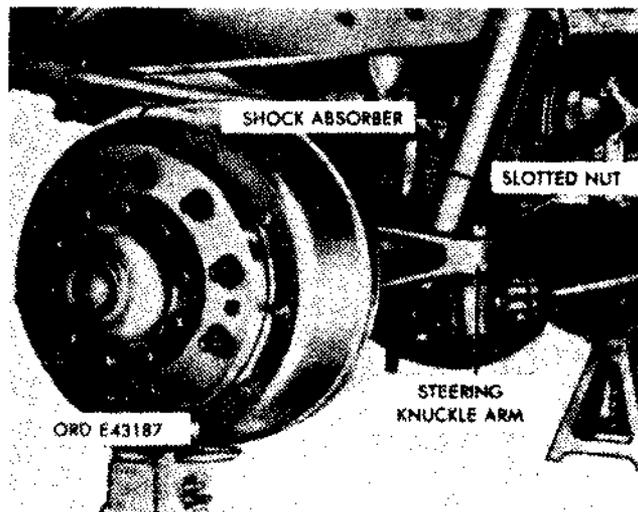

Figure 2-204. Front axle assembly with **wheel** and **tire** assembly removed.
a. Removal (fig. 2-204).
b. Installation (fig. 2-204).
(1) Insert the tie rod end studs in the steering knuckle arm holes.
(2) Install two slotted nuts, one on each stud, and torque nuts 140 to 180 lb-ft for all models with exception of M39, M39A2 chassis, M41 and M41A2 cargo trucks.
(3) Install cotter pins to the slotted end nuts. Lower the wheels, and adjust the toe-in (para 2-214e).
(4) Lubricate the rod in accordance with L0 9-2320-211-12.